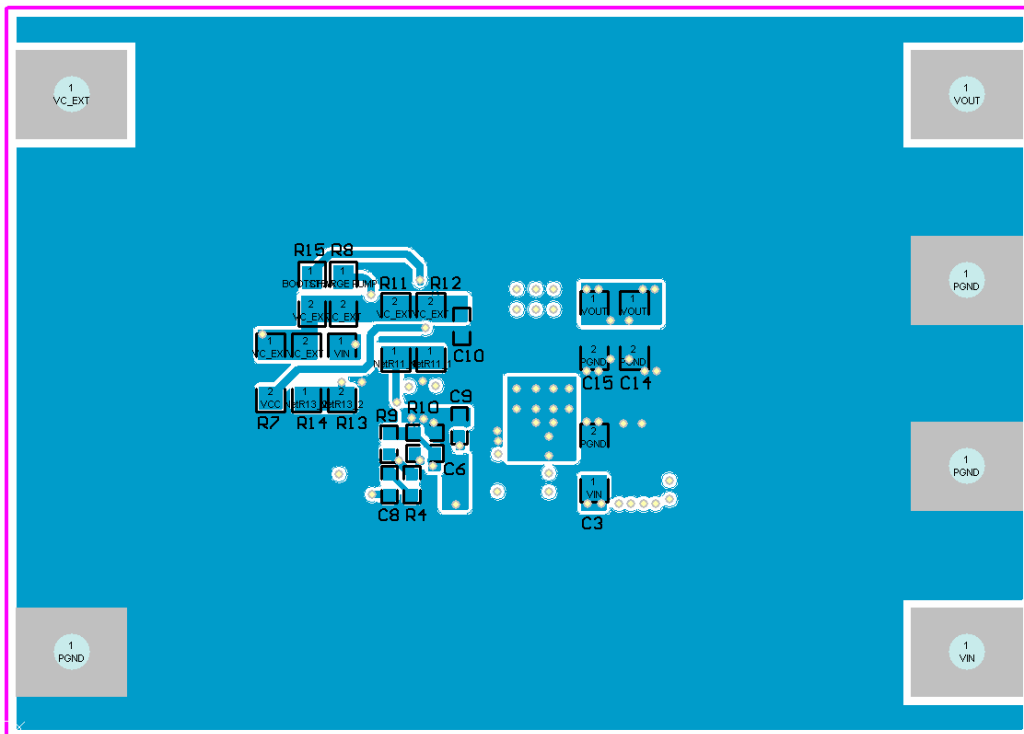

Figure 3d: IRPP3624-05A Reference Design bottom layer layout.
3. A solid ground plane is furnished in mid-layer 2. The connection of the signal ground to power ground is done at a single point in the bottom layer as shown in figure 3d.